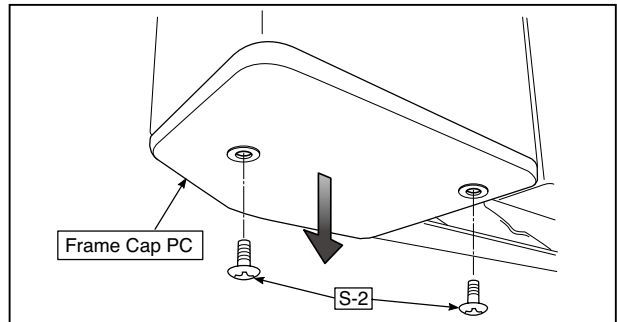

Fig.16
### 11) Remove the Frame Cap C. (See Fig. 16.)
1. Remove the "S-2" screws shown in the figure 16 and then remove the Frame Cap C.